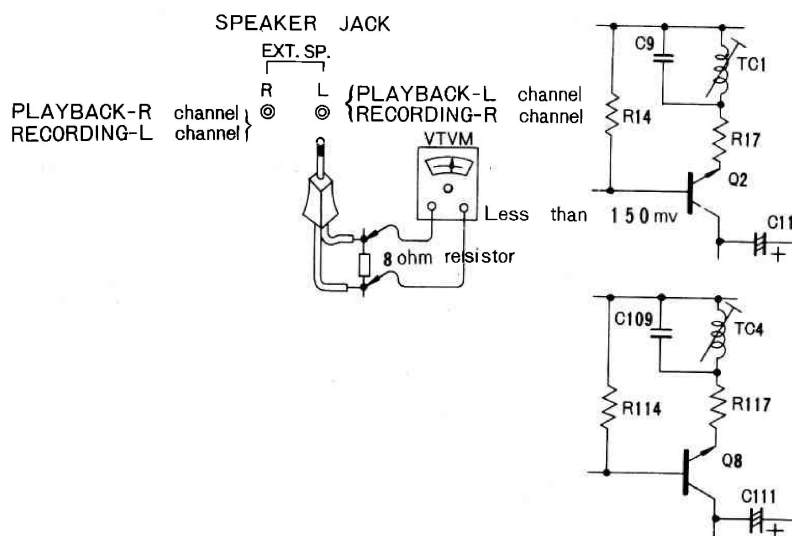

Fig. 37
- a-3) Connect a 8 ohm resistor to EXT. SP jack of L-channel as shown in Fig. 37 and connect the VTVM to both sides of the resistor.